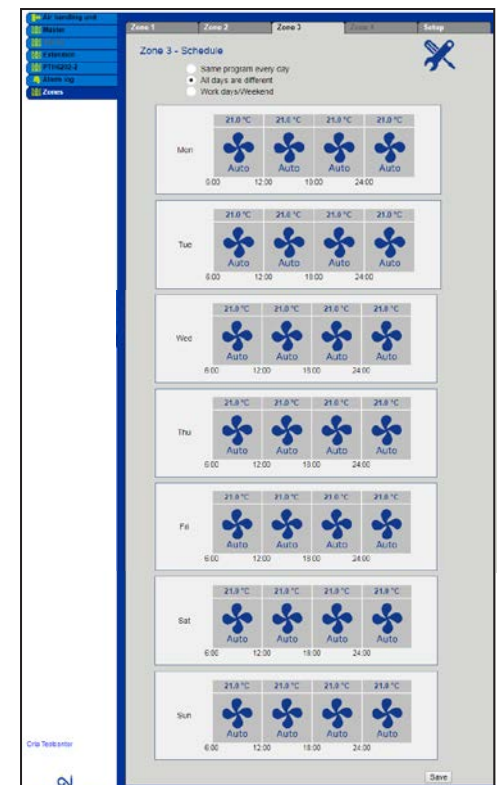

Fig. 4
- Have individual scheduler programmes for each weekday (fig. 4)